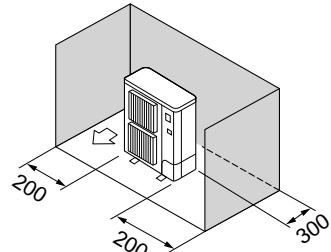

Fig. 2-5
③ Obstacles at rear and sides only (Fig. 2-5)